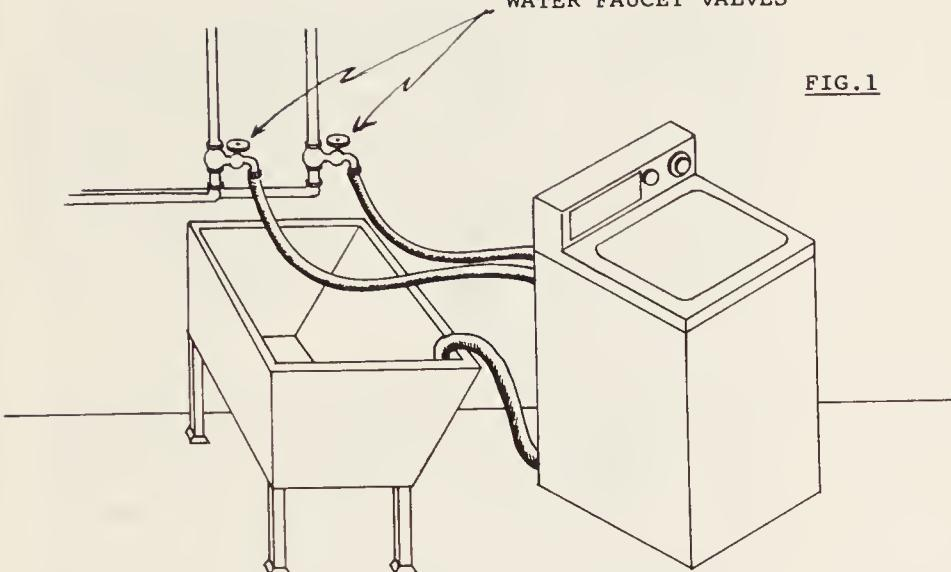

FIG. 1
1. Check the water valves of both the hot and cold water faucets to make sure they are fully open. (*Figure 1*)